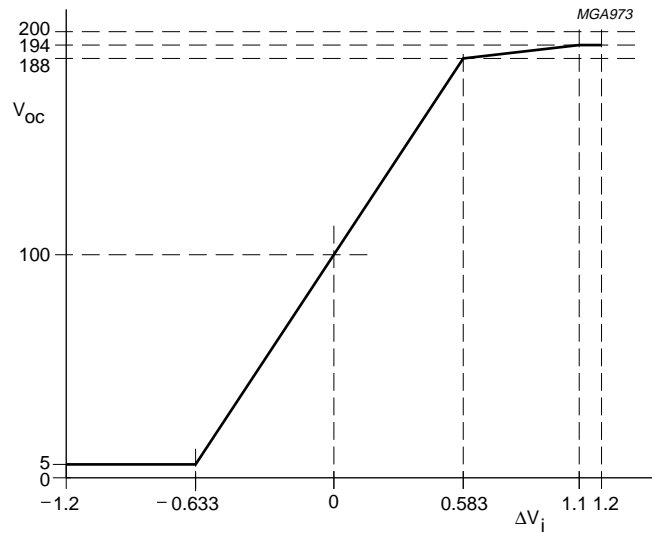

Fig.6 Typical low-frequency ($f < 1$ MHz) response of $\Delta V_{i1, 2, 3}$ to $V_{oc1, 2, 3}$.
- See also Fig.6 for the typical low-frequency response of V_i to V_{oc} .